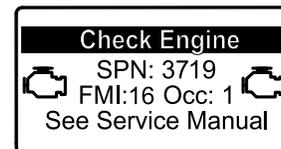

Figure 40
- If a parked regeneration is needed, the InfoCenter displays engine warning SPN 3719, FMI 16 (Figure 40) and the engine computer derates engine power to 85%.